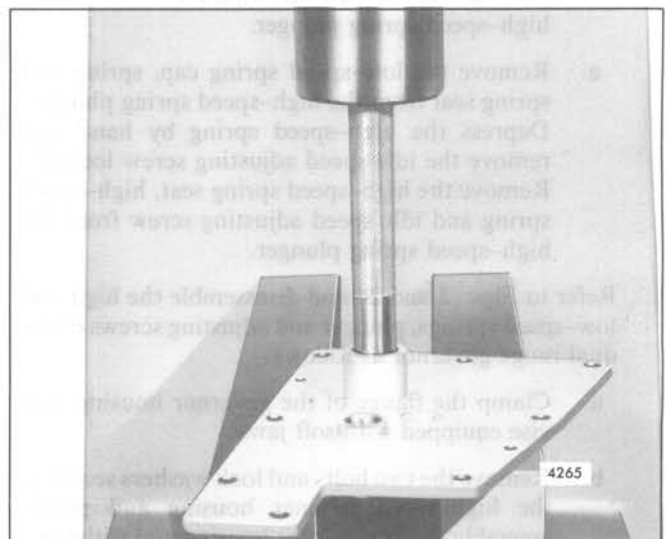

Fig. 9 - Removing Speed Control Shaft Bearing from Governor Cover using Tool J 21967-01
- g. If needle bearing removal is necessary, place the inner face of the cover over the opening on the bed of an arbor press. Place remover J 21967-01 on the top of the bearing and under the ram of the press, then press both bearings out of the cover (Fig. 9).